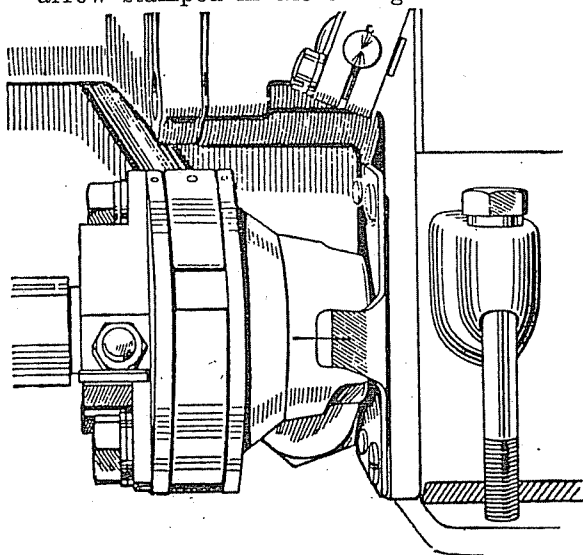

Fig. 28.
- (1) The first operation is to set tappets to .012 inch.
- (2) Turn the crankshaft to bring Nos. 1 and 6 pistons to the top, No. 1 piston being on the compression stroke, the rockers on No. 6 cylinder being just rocking.
- (3) That T.D.C. on Nos. 1 and 6 pistons has been obtained can be checked by examining the flywheel or the crankshaft at the front end where the key for the fan belt pulley should be at the top of its periphery.
- (4) To ensure that the fuel pump is timed in conjunction with the engine, and provided the engine is still set as mentioned above, place the fuel pump on the fuel pump platform, with the three "O's" across the coupling line.
- (5) Screw in the two locating set screws below the fuel pump platform.
- (6) Tighten down the four securing bolts.
- (7) The scribed line on the coupling should coincide with the scribed line on the pre-set plate (See Figure 28), but if the lines are slightly out of line, the fuel pump coupling can be adjusted to correct this difference.
- (5) Turn the fuel pump drive sprocket until the arrow stamped on the sprocket is in line with the arrow stamped in the timing case. The scribed lines on the fuel pump coupling and pre-set plate should be in line. See Figures 28 and 29.
- (6) Fit timing chain and rivet up master link.
- (7) See Paragraph 16 for fitting of the timing chain.